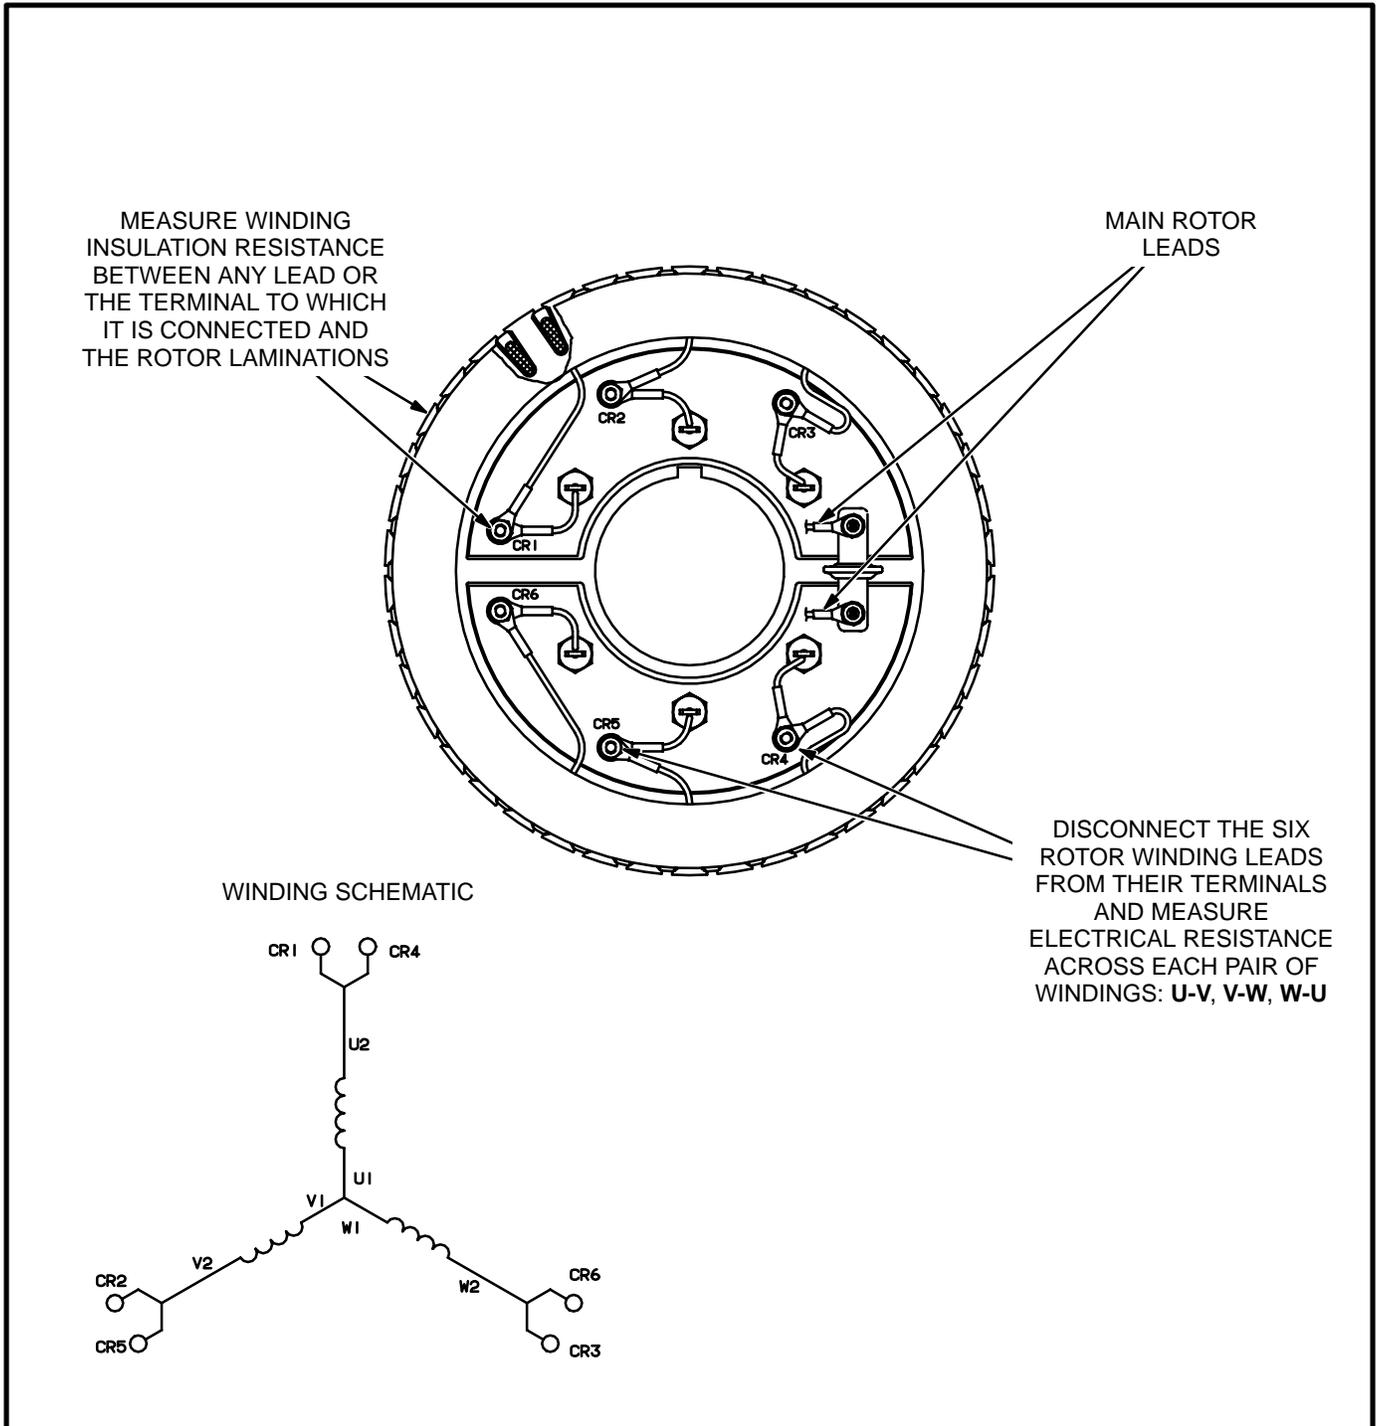

FIGURE 5-4. TESTING THE EXCITER ROTOR
**Testing Winding Resistance:** Disconnect the two leads of the main rotor from the terminals on the rotating rectifier assembly. See Figure 5-4. Measure electrical resistance between the two leads with a Wheatstone bridge or digital ohmmeter. Replace the rotor if the resistance is not as specified in Table